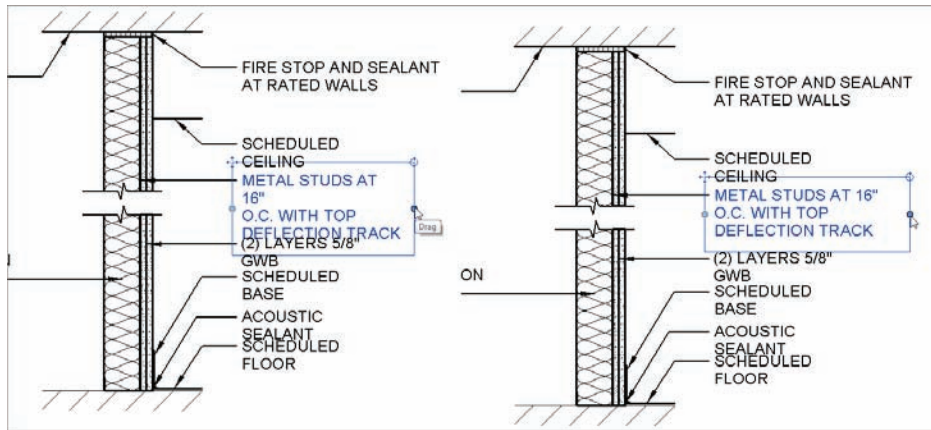

FIGURE 11.59 Fixing the improperly wrapped text
4. Pick the grip to the right, and drag the text box to the right until the text wraps into the correct position, as shown in Figure 11.59.